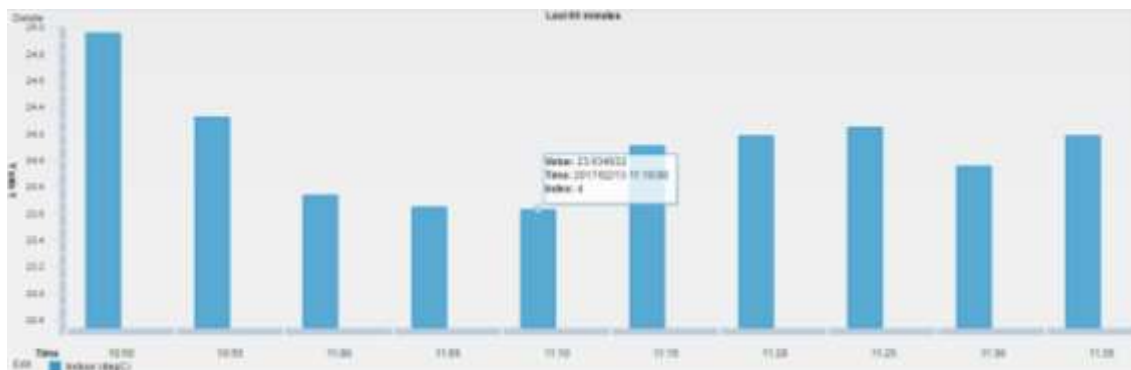

Figure 49: Bar chart mimic
- Only a single channel can be plotted on each bar chart. *Figure 49* shows a typical bar chart.